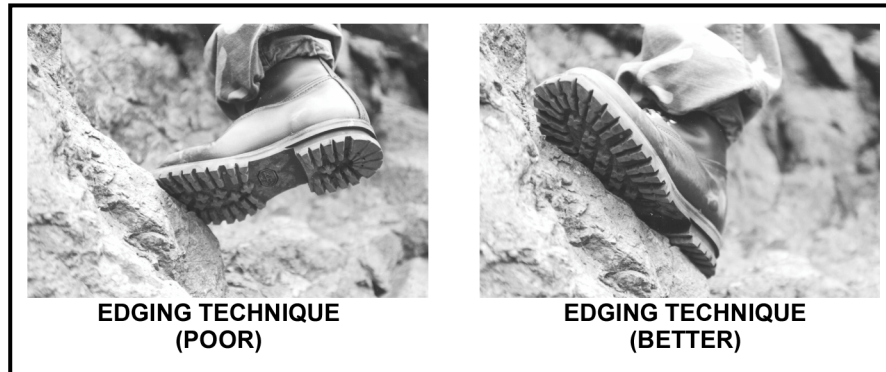

Figure 6-5. Examples of edging technique.
(2) **Edging.** The edging technique is used where horizontal crack systems and other irregularities in the rock form small, well-defined ledges. The edge of the boot sole is placed on the ledge for the foothold. Usually, the inside edge of the boot or the edge area around the toes is used. Whenever possible, turn the foot sideways and use the entire inside edge of the boot. Again, more sole contact equals more friction and the legs can rest more when the heel is on the rock. (Figure 6-5, page 6-12, shows examples of the edging technique.)